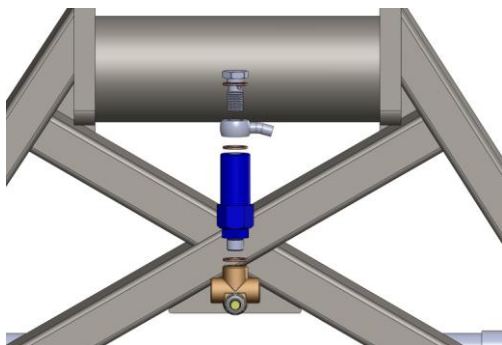

Figure 7
- c. Connect blue pressure residual valve to t-block using a crush washer between the two. Torque to 17-19 lb. ft. Figure 7
- d. Connect the supplied braided brake line to the rear master cylinder with the supplied banjo bolt with integrated pressure switch using the OE crush washers. Torque to 17-19 lb. ft. Then attach the brake line to the pressure residual valve using a 10mm single banjo bolt and two crush washers as seen in Figure 7. Torque 17 to 19 lb. ft. Use zip ties to attach the brake line to the swing arm.